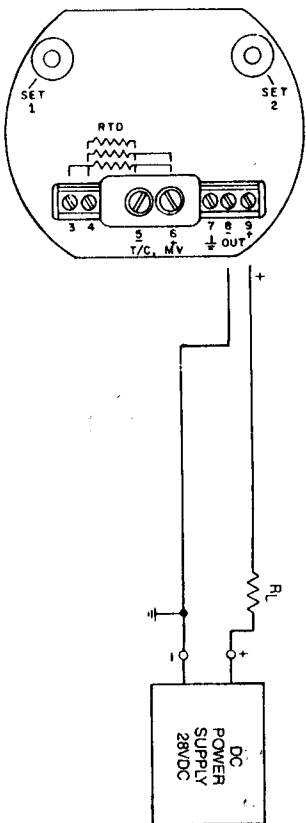

Figure 3-1
The output terminals, 8 & 9, are connected generally to a power supply having a nominal 24 Volt DC voltage and capable of supplying 21mA for the TX64. The + OUT and -OUT terminals of the transmitter are connected to the corresponding polarity terminals of the power supply. Optionally a load resistor, typically 250 ohms, may be connected in series with either terminal of the transmitter. Figure 3-1 shows a typical connection of the TX64 to the current loop.
With the power supply off, connect the + side of the power supply to the +OUT (9) terminal of the transmitter. Connect the - side of the power supply to the -OUT (8) terminal of the transmitter. Optionally a resistor, typically 250 ohms, may be added in series with either lead. See Figure 3-1.